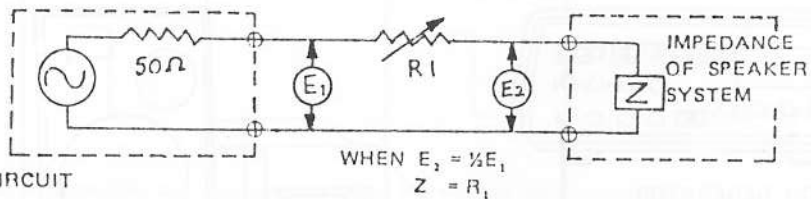

Figure 9
- (1) Series connected a R1 to the network under test as in Figure 9.
- (2) Get voltage read out in E1, E2, adjust R1 until E2 is equal to one half of E1.
- (3) Under this frequency, the impedance network is the same as the R1.
- (G) **Act as automatic test of speaker**